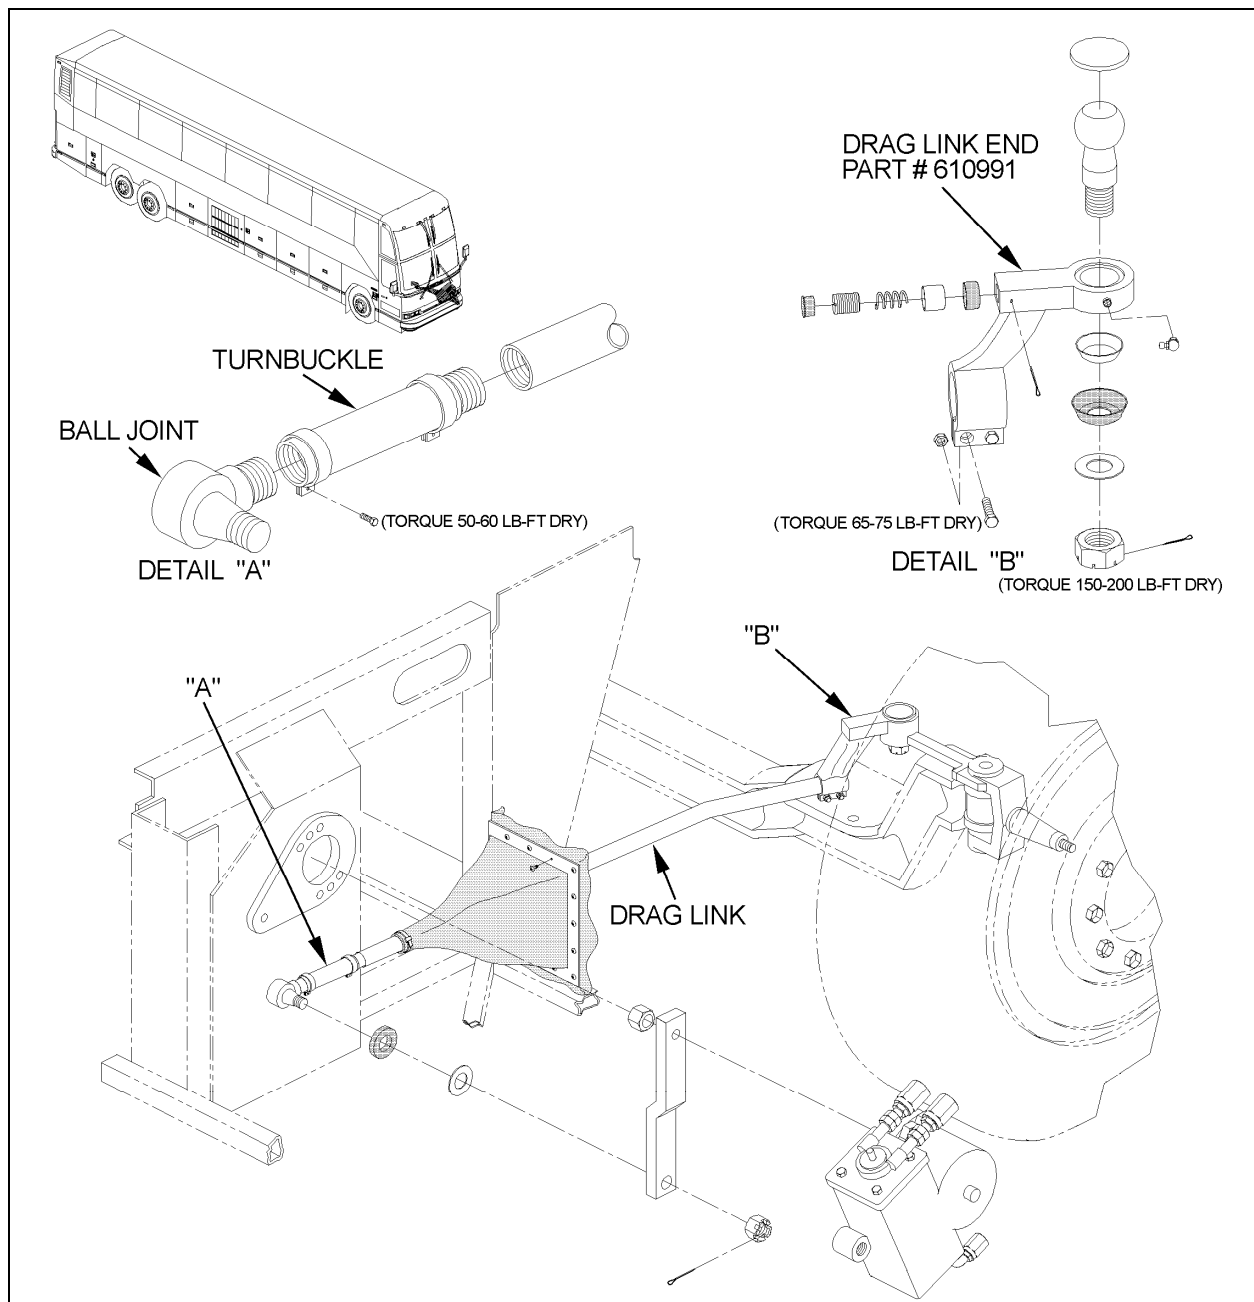

FIGURE 6
4. Unfasten drag link end from drag link (Refer to figure 6).
If this is not the case, unfasten turnbuckle collar nuts on drag link and turn turnbuckle in order to center steering wheel. Retighten collar nuts to 50-60 Lb-Ft dry (Refer to figure 6).